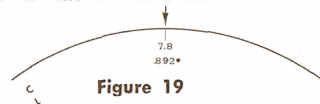

Figure 19
**Example:**  $\log 78 = 1.892$  (Figure 19)